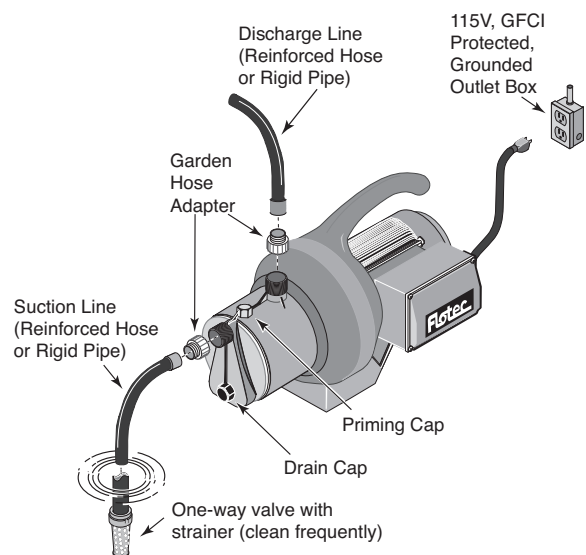

Figure 1– Typical Installation
Both the suction and discharge ports are tapped for 1" MNPT threads. If using hoses, use a hose adapter. See Figure 1. Do not use a hose on the suction if pumping from lakes, streams or ponds. The hose will collapse and cause pump failure. Install a strainer with the foot valve on the end of the suction line. Inspect and clean the strainer frequently (Figure 1).
- ◆ When using a garden hose, install adapters on the pump suction and the discharge. The suction hose will require two female ends. Use a standard washing machine supply hose as a suction line (Figure 1).